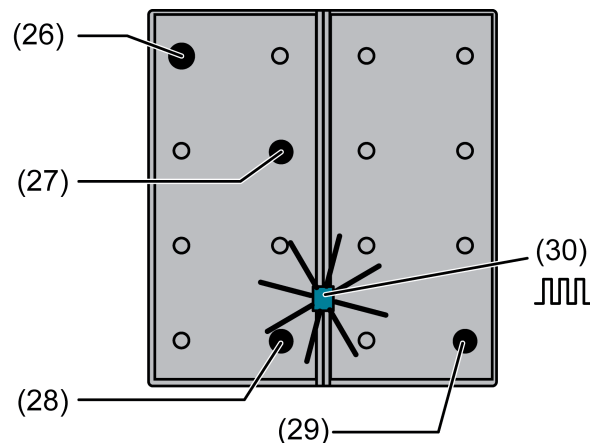

Figure 7: Buttons for activation of the programming mode
- Activate the programming mode. To do this, press and hold push-button at the upper left (26) (figure 7). Then press second push-button at the lower right (27, 28 or 29). The location of the second push-button depends on the push-button sensor variant.